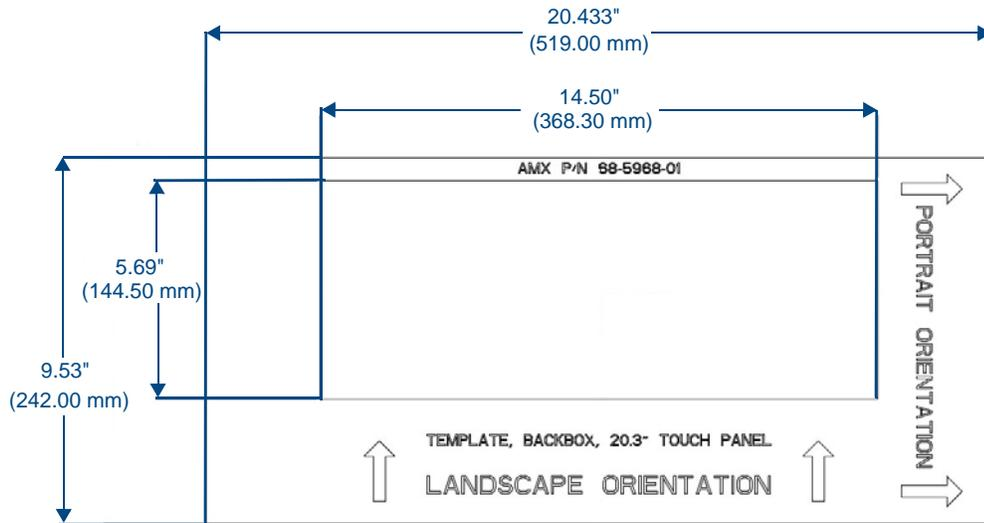

FIG. 17 MXD-2000XL-PAN Template
2. Since the cutout for the back box is off-center from the edges of the touch panel, use the MXD-2000XL-PAN Installation Template (68-5968-02) to ensure proper placement (FIG. 17). The template is marked on one side with directions for both landscape and portrait installations to ensure that the touch panel and back box are properly aligned.